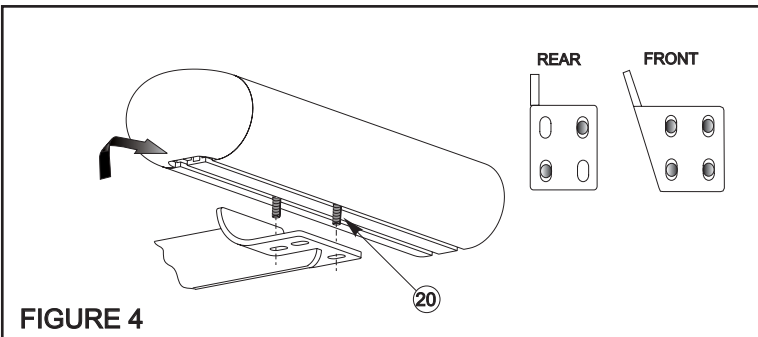

FIGURE 4
- STEP 8. Slide T-head bolts on step bar as shown (3 per slot, 6 per bar). Place step bar on saddle with long step pad forward and end cap screw facing inward. Assemble with 1/4" fasteners. **SEE FIGURES 4 AND 5.**